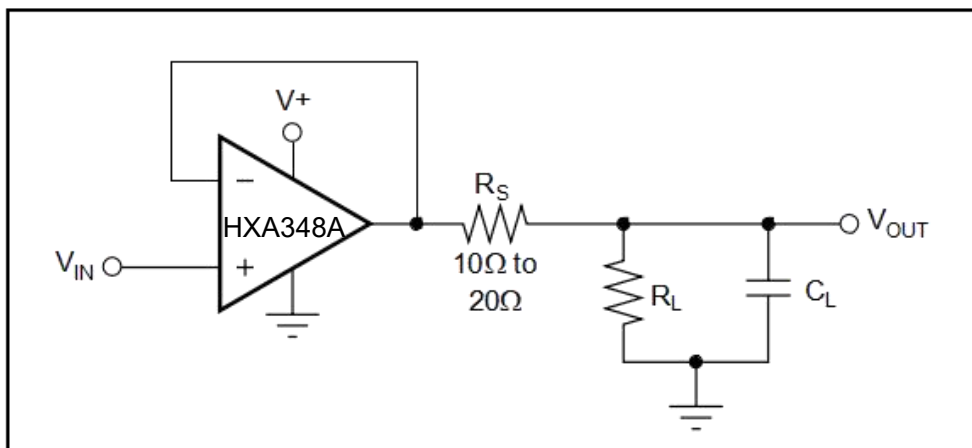

FIGURE 5. Series Resistor in Unity-Gain Buffer Configuration Improves Capacitive Load Drive.
The HXA348A in a unity-gain configuration can directly drive up to 250pF pure capacitive load. Increasing the gain enhances the amplifier's ability to drive greater capacitive loads (see the typical characteristic "Small-Signal Overshoot vs Capacitive Load"). In unity-gain configurations, capacitive load drive can be improved by inserting a small (10Ω to 20Ω) resistor, R_S , in series with the output, as shown in Figure 5. This significantly reduces ringing while maintaining DC performance for purely capacitive loads. However, if there is a resistive load in parallel with the capacitive load, a voltage divider is created, introducing a Direct Current (DC) error at the output and slightly reducing the output swing. The error introduced is proportional to the ratio R_S/R_L , and is generally negligible.